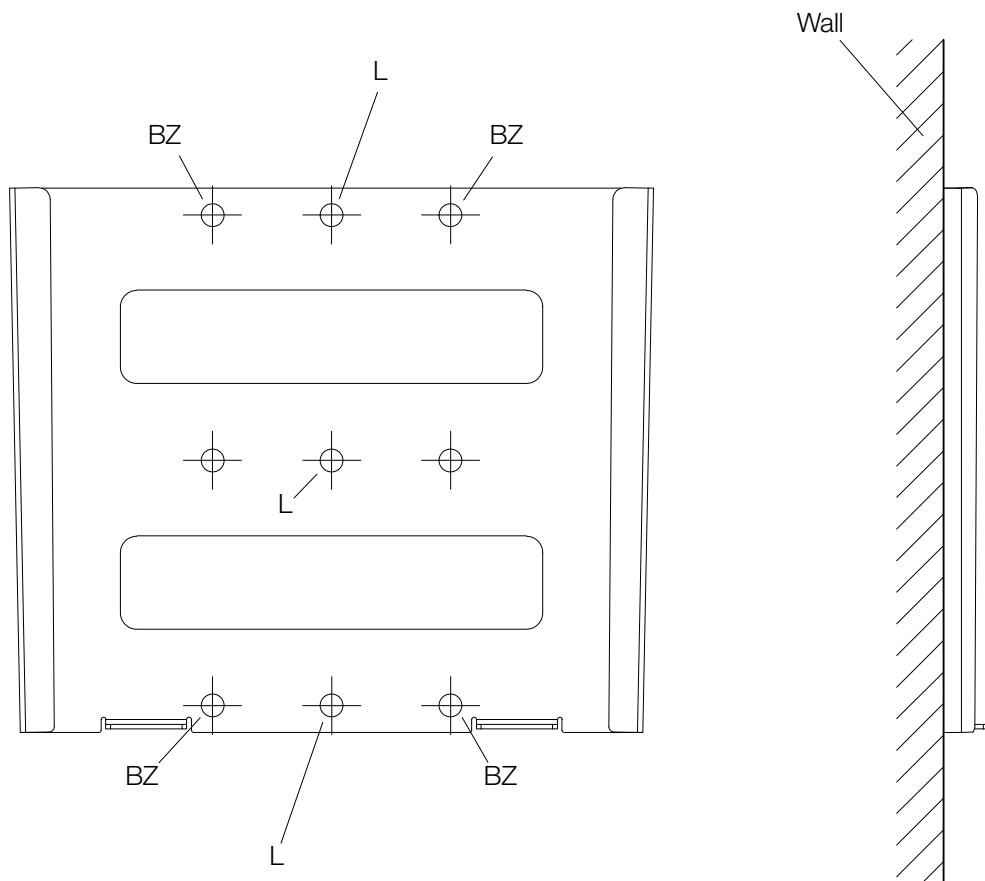

Figure 4.7 - Hole descriptions
1. To fix the wall plate to a concrete or brick wall, use the BZ holes (see figure 4.7). Make sure that all four mounting holes BZ are used!
2. To fix the wall plate to a lightweight wall, use the holes L (see figure 4.7). Make sure that all three mounting holes L are used!